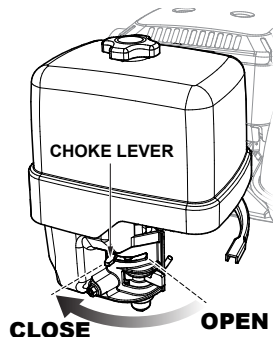

Figure 9. Choke Lever
2. To start a cold engine, move the choke lever (Figure 9) to the CLOSED position.